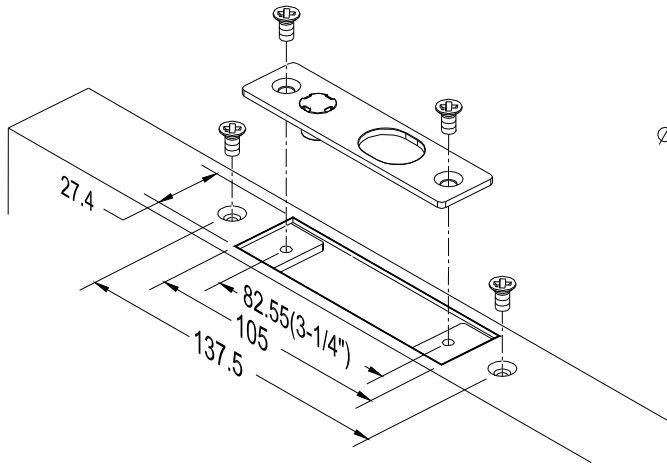

Fig. 6
4. Fig.6: The reference diagram of installation_6